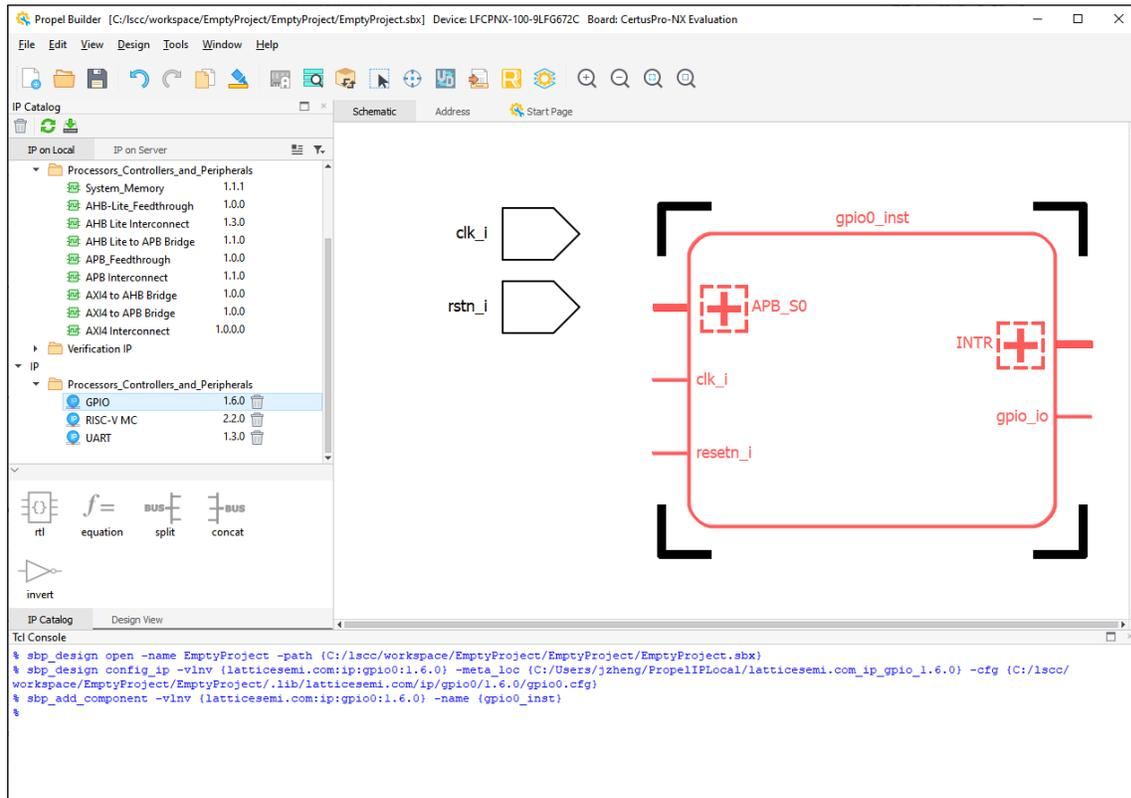

Figure 2.44. Propel Builder Schematic View Shows the Module Instance
9. Click **OK**. The schematic block for the module appears in the **Schematic** view (Figure 2.44).